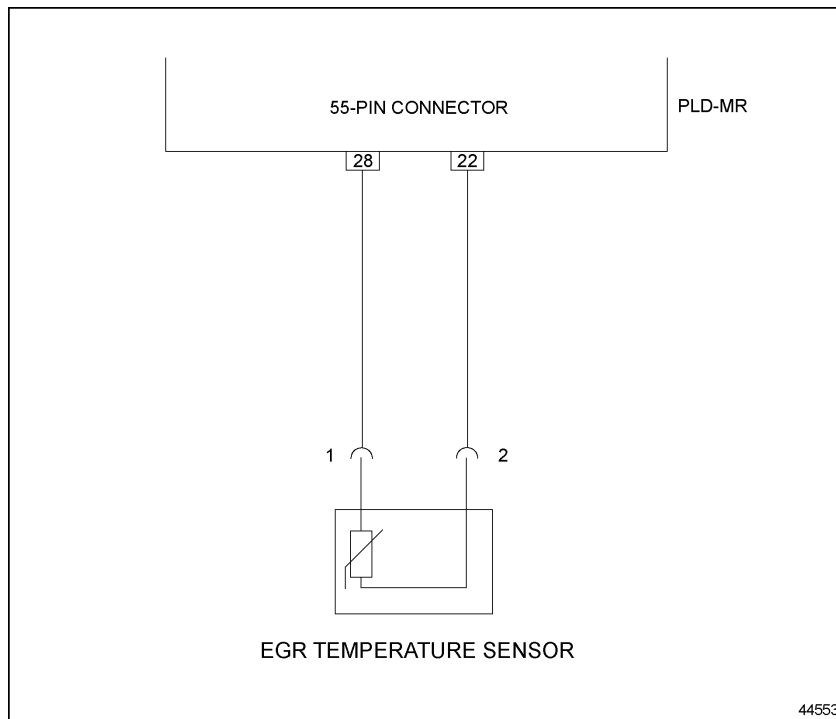

Figure 4 – EGR Temperature Sensor Diagram
1. Bridge EGR temperature sensor between pins 1 and 2. See figure 4.